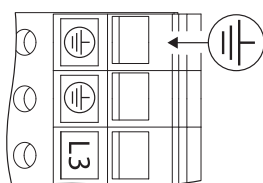

Fig. 27: Additional earthing
- Due to the increased discharge current in motors from 11 kW upwards, it is also necessary to connect heavy-duty earthing in acc. with EN 61800-5-1:2008-04 (see Fig. 27).